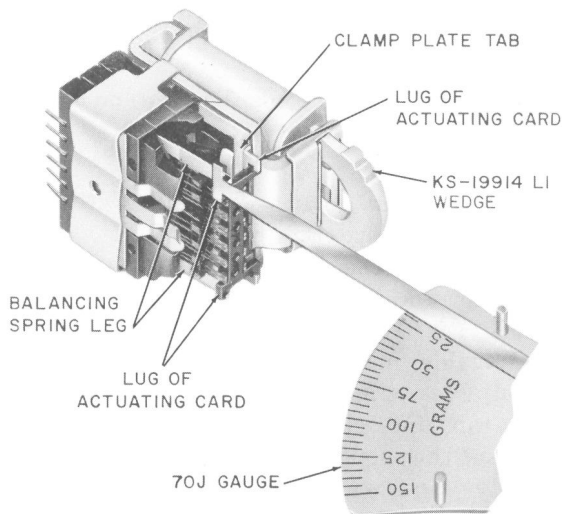

Fig. 10—Measuring Tension of Balancing Spring Leg
(1) If the requirements for armature back tension and balancing spring tension are not met, proceed as follows: With the cover removed, block the relay operated using the KS-19914, L1, wedge (see Fig. 10). Then measure the tension of each balancing spring leg. To do this, position the tip of the 70J gauge against the lug of the actuating card at the end of the balancing spring leg as shown in Fig. 10. Move the gauge toward the actuating card until there is an observable gap between the clamp plate tab and the associated lug of the actuating card. With the gauge in this position, note the tension on the gauge.